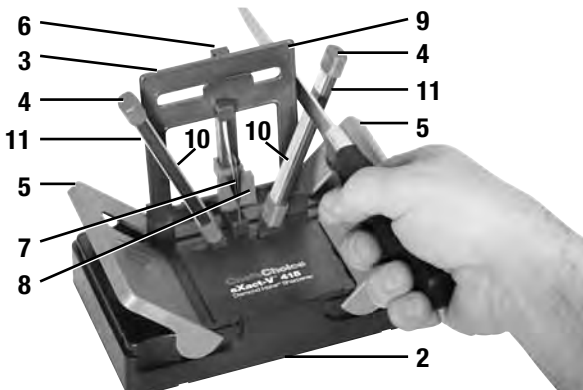

Figure 1.
Refer to Figure 1 which shows the fully assembled sharpener with the knife guiding assembly (3) and the two sharpening rods (4) mounted on the supporting base.
Start by confirming that the “Coarse” sides of the abrasive rods face each other. You will want to sharpen first with the “Coarse” abrasive. Raise one of the hand guides to protect your hand that steadies the sharpener. Holding the knife as shown in Figure 1 place the face of the blade flat against and in intimate contact with the right guide surface (9) of the guide frame (3). Move the blade forward as far as practical (toward the abrasive rod) in order to sharpen the full blade length. Then slowly push the blade downward into contact with the abrasive rod and simultaneously pull the blade toward you while retaining the blade face in good alignment with the guide surface (9). As you move the knife downward in contact with the abrasive rod the guide surface will move to the left. Keep the face of the blade in good contact with the guide surface. Move the knife slowly and deliberately until you gain experience and confidence with this